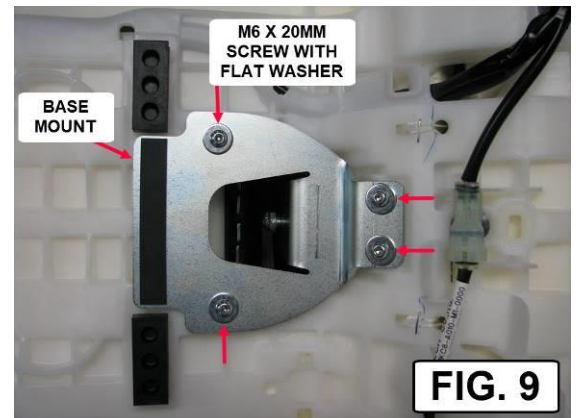

FIG. 9
10. PLACE THE ASSEMBLED BASE MOUNT ON THE BOTTOM OF THE SEAT AS SHOWN IN FIG. 9. INSTALL THE FOUR M6 X 20MM LONG ALLEN SCREWS WITH THE FOUR FLAT WASHERS AS SHOWN IN FIG. 9. PUSH THE BASE MOUNT TOWARD THE FRONT OF THE SEAT AS YOU TIGHTEN THE SCREWS.